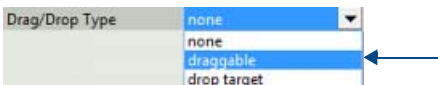

FIG. 232 TPDesign5 General Properties - Drag/Drop Type set to "draggable"
3. Set the button's *Drag/Drop Type* (General) property to **draggable** (FIG. 232):